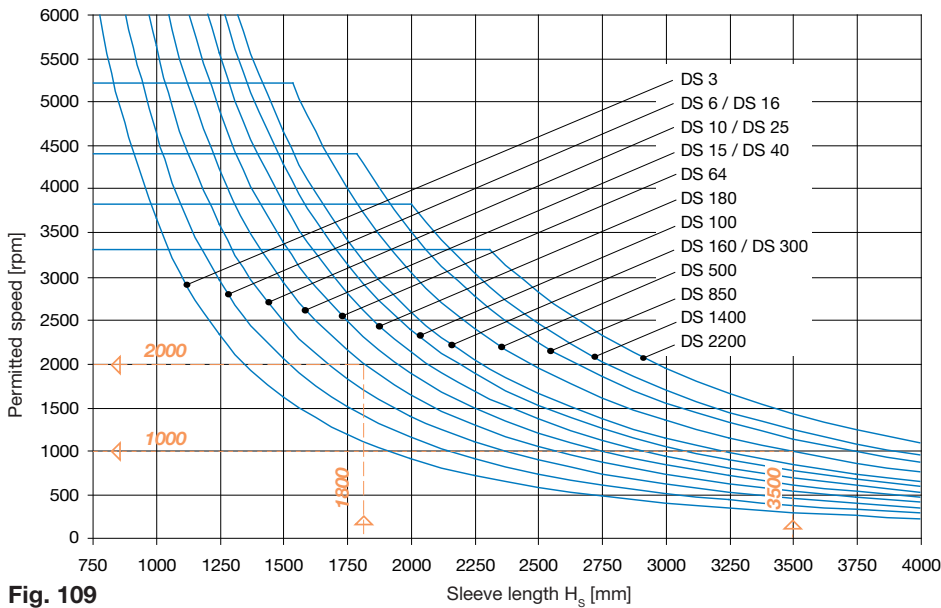

Fig. 109
Permitted Speeds (Critical Bending Speeds) on Sleeve S, CRD Sleeve, CFRP Sleeve (Figs. 109, 110, 111)
Examples (Fig. 109)
- Please operate designs with sleeve S, CRD sleeves and CFRP sleeves at subcritical levels (see Figs. 109, 110 and 111).